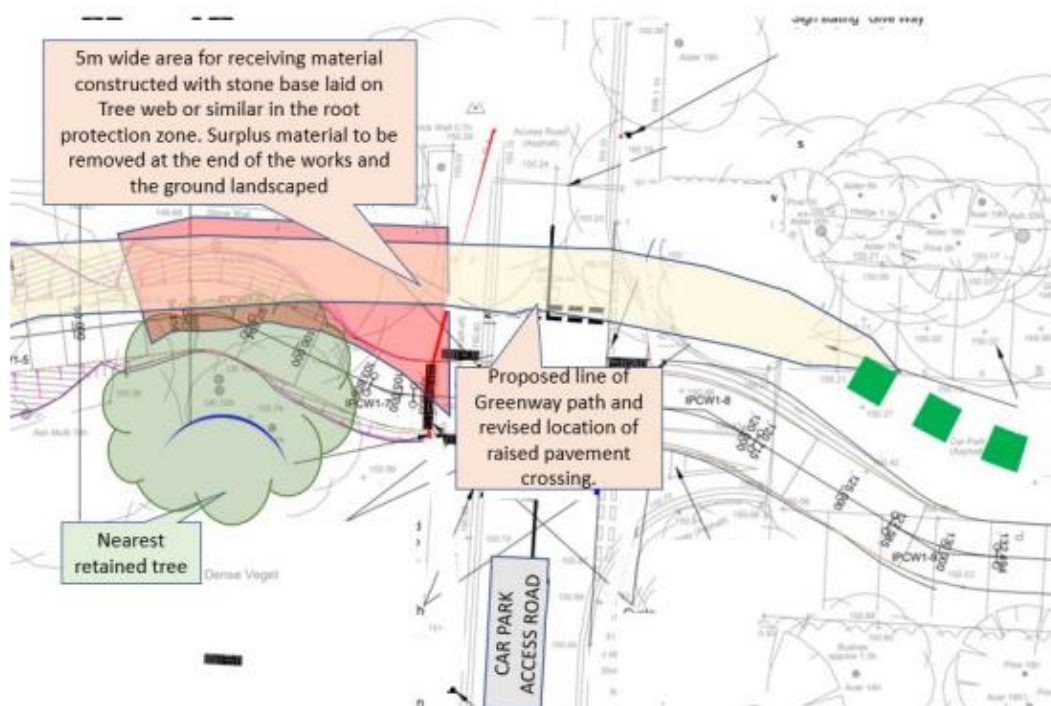

Figure 2: Plan showing site compound area and area for the receipt of materials all in relation to the revised path alignment
3. The operations vehicles will not exceed 4 and will be parked on the designated carpark site shown in Figure 2. Site supervision vehicles will number no more than 1, and there will be no visitor vehicles.
4. Stage 1 of the construction will be to provide a stone based working area 5m wide and 15m long centred on the line of the eventual path and constructed with "tree cell" as necessary, see Figure 2. This area is shown in pink. An operative to act as a banksman will supervise each vehicle reversing to unload onto this area. Plant will be unloaded in this area initially, and further along the path as the work progresses.